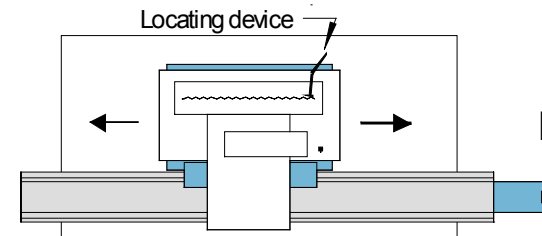

Fig. 3
5. Return the saw plate with attached saw to the AIO Clamp. Saw should pivot slightly on saw plate to allow for the minor adjustments necessary to insure that the saw blade is parallel with the slider (C) of saw plate. Use a bent nail or other locating device to register the position of one edge of the blade, see Fig. 3.